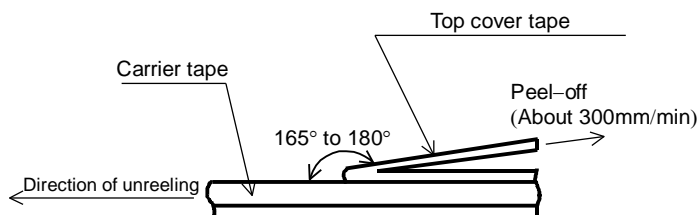

Figure-6
- 5). The peel strength of the top cover tape shall be within 0.1N to 0.5N on the test method as shown in the following FCCR10:Figure-5,FCCR16: Figure-6.